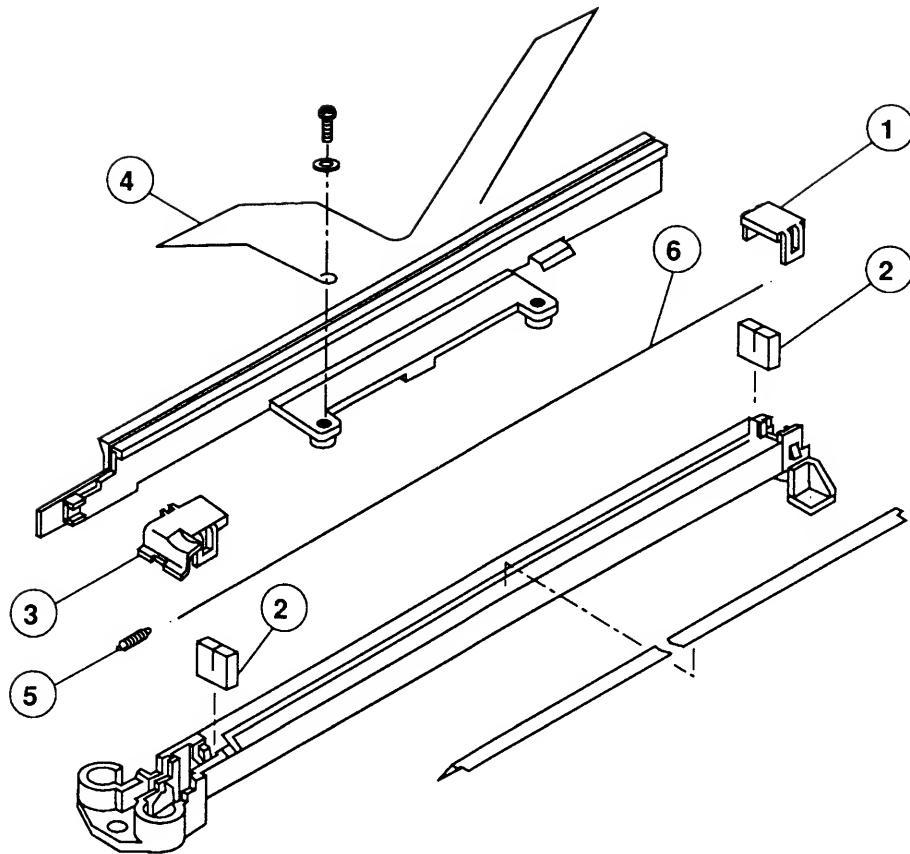

FIGURE 19
□ TRANSFER CORONA ASSEMBLY (Figure 19)